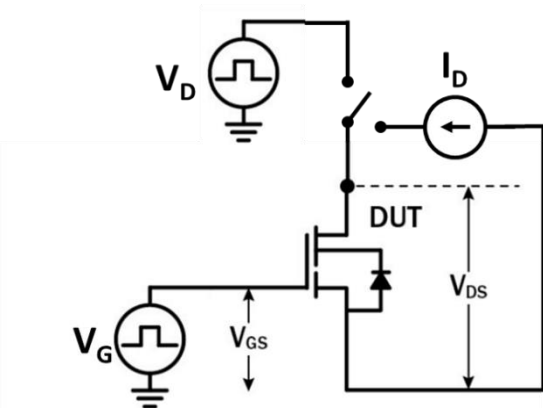

Figure 21. Dynamic  $R_{DS(on)eff}$  Test Circuit
1. Dynamic RDS(on), 100% tested; see Figure 21 and Figure 22 for conditions.